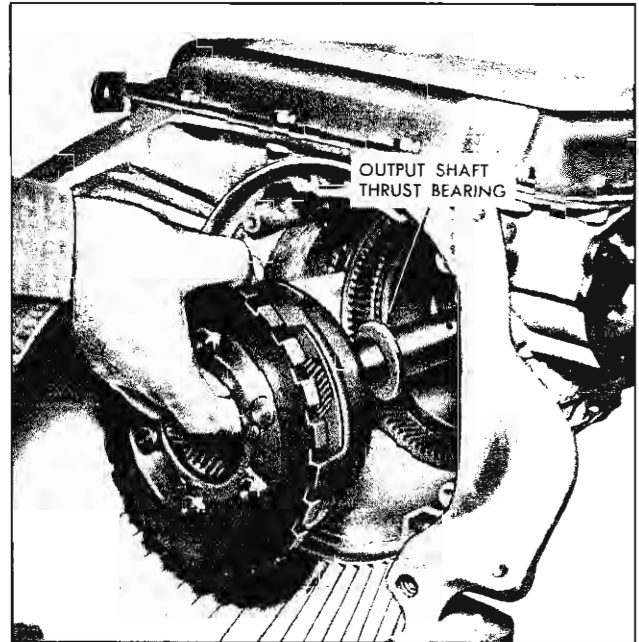

Fig. 36PG—Installing Gearset
15. Place the output shaft thrust bearing over the output shaft and install the planetary carrier and output shaft into the transmission case (fig. 36PG).